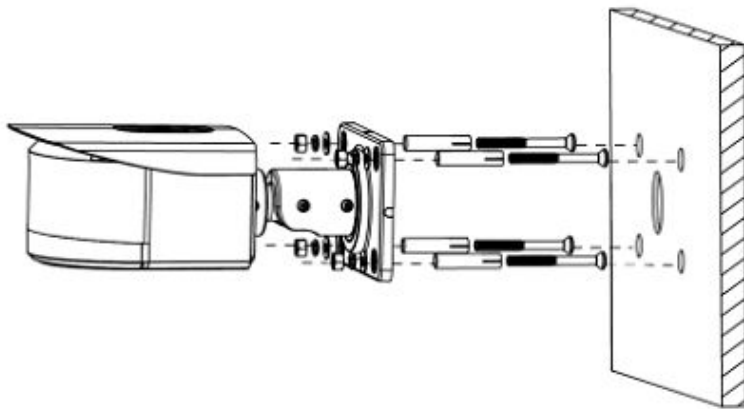

Figure 2-2
Step 2 Install the mounting screws through the mounting surface to the mounting plate. Route the cabling as needed through the mounting surface or the side exit notch of the camera base. See Figure 2-2.